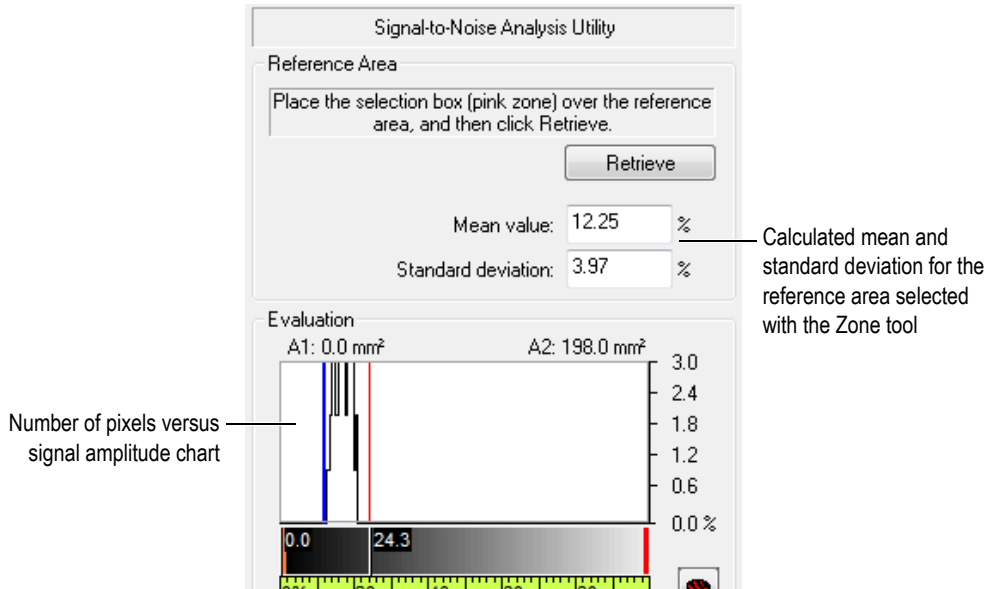

Figure 7-30 Example of reference area analysis results
3. In the **SNR Analysis Utility** dialog box, click **Retrieve**. TomoView calculates the mean and the standard deviation value for the reference area, and displays a distribution chart of the number of pixels as a function of the signal amplitude (see Figure 7-30 on page 369).